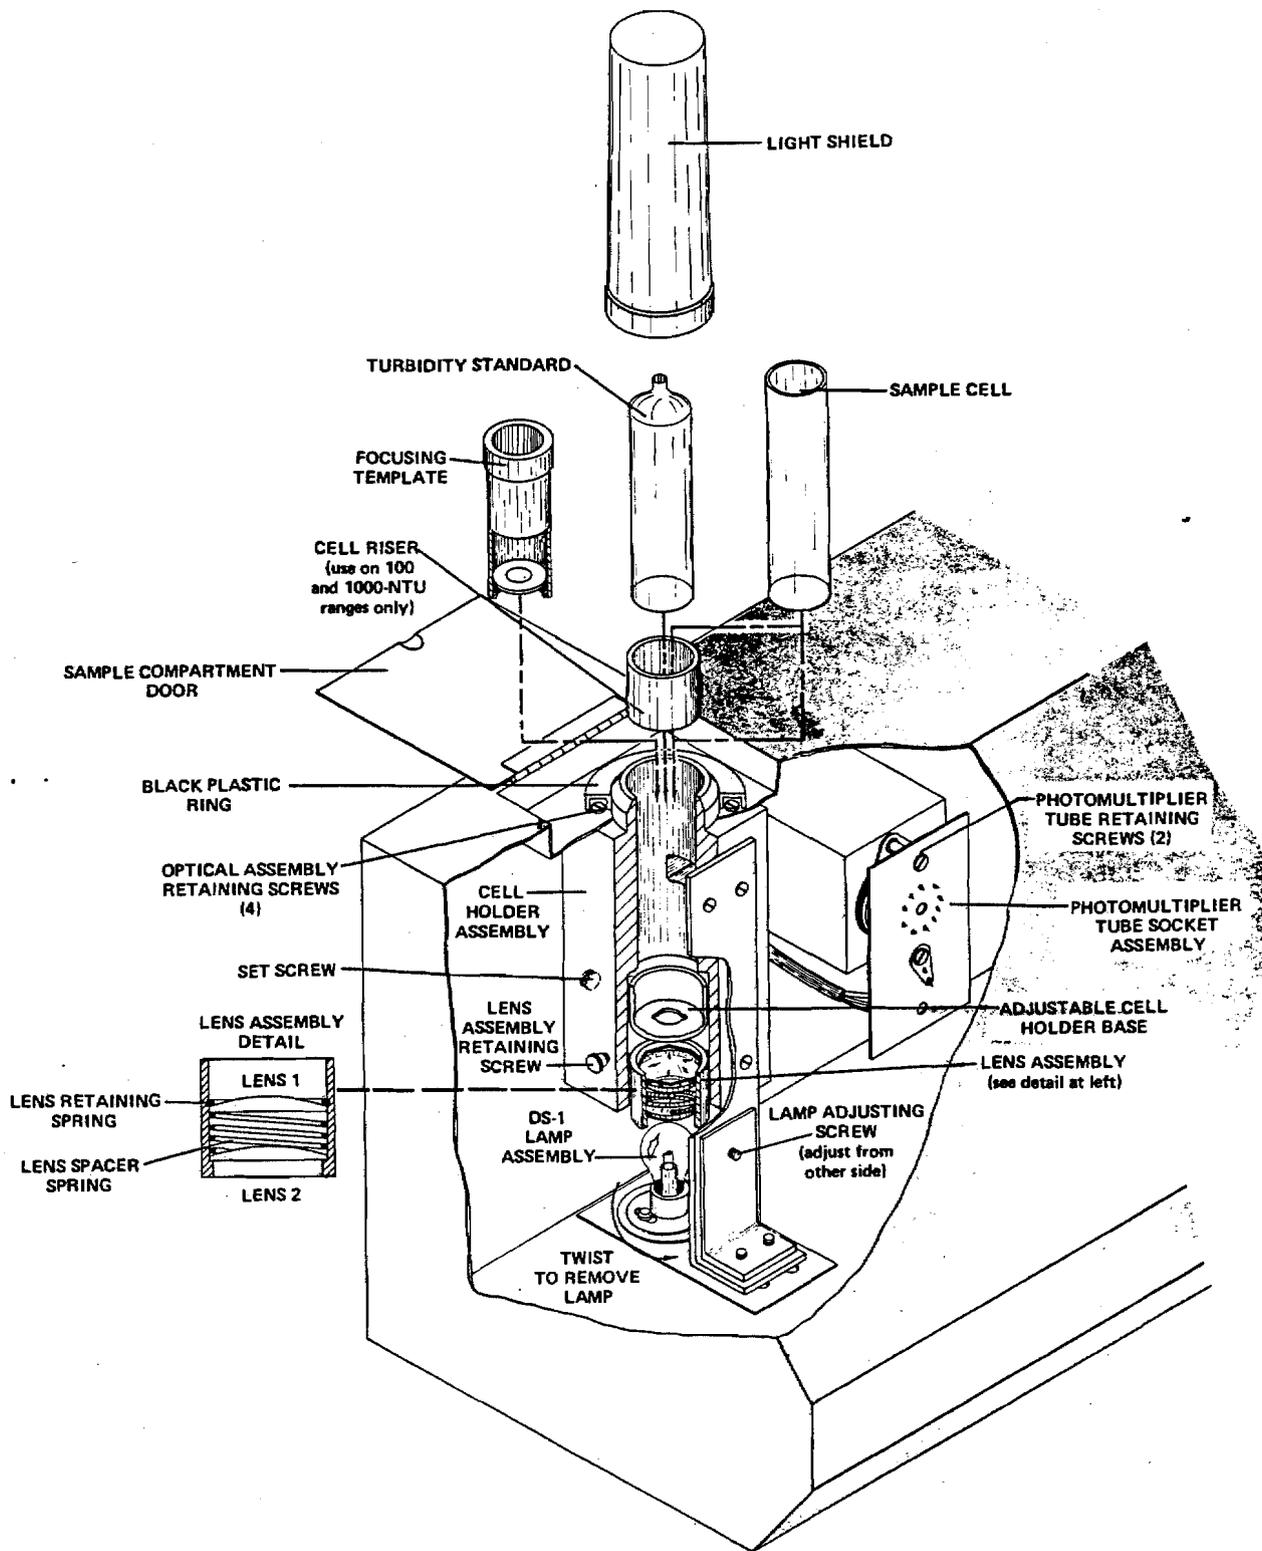

FIGURE 3
When measuring turbidities on the 0 - 100 and 0 - 1000 NTU ranges, a cell riser is inserted into the cell holder assembly to raise the sample cell. See Figure 3. The riser decreases the light path length which results in increased linearity in the measurement of high turbidities. A foam and plastic retriever tool is included with the accessories to remove the cell riser from the instrument.
Instrument standardization is achieved with the aid of four liquid turbidity standards, one for each range except the lowest. The turbidities of all four standards are based on Formazin dilutions. The standards (furnished with the instrument) are rated at ^{0.6} 1, 10, 100 and 1000 NTU and are contained in sealed glass tubes. The first ^{0.6} (1.0) is a ^{liquid chlorobenzene} high-molecular-weight polymer dissolved in water and the other three standards are liquid latex solutions. When placed in the instrument, the standards scatter an amount of light proportional to the NTU ratings specified on the tubes. Standardization is accomplished by selecting the desired range, placing the appropriate standard in the instrument and, with the light shield in place, adjusting the STANDARDIZE control to obtain a meter reading equal to the NTU value of the standard. When standardizing the 100 and 1000-NTU ranges, the cell riser must be used. See Figure 3.
Unplug the power cord and open the back panel of the turbidimeter. The lens assembly is held in place by a brass retaining screw on the side of the cell holder assembly. See *Figure 3*. Before removing the lens assembly, be sure to mark its original position in the cell holder so that the factory focusing of the instrument is not changed when the unit is reassembled. Wipe each lens with a tissue or towel that will not leave an oil film.
2. View from above, through the sample cell holder opening. The lamp image must be centered in the circle of the focusing template. If it is not, loosen the lamp adjusting screw directly above and behind the lamp. See Figure 3.
4. Remove the lamp by twisting approximately 1/8 of a turn counterclockwise (looking down on bulb). See Figure 3.
2. Open the sample compartment door on top of the instrument and carefully remove the black plastic ring inside. See Figure 3.